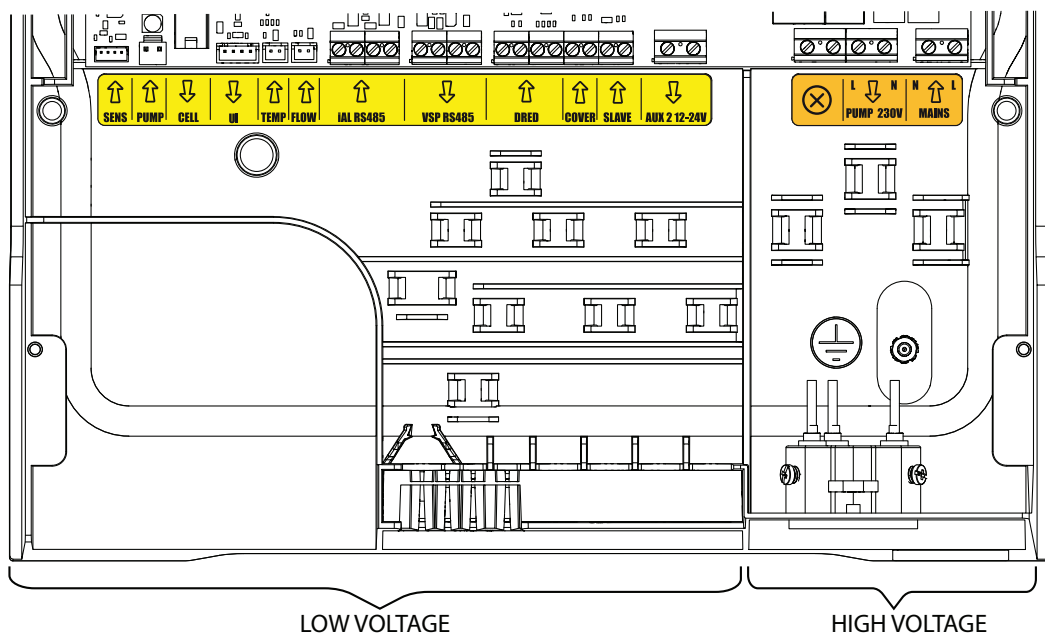

Figure 7. Controller Wiring
1. Wire low voltage connections on the low voltage side of the enclosure, see Figure 7.
2. Wire high voltage connections on the high voltage side of the enclosure, see Figure 7.
If the pool is equipped with a compatible electric roller cover, this can be connected to the controller in order to automatically reduce chlorination upon closing the cover, this is known as Cover mode, see Table 3 and Figure 7 for wiring details. Chlorination will resume at the level determined by the programming upon opening the compatible electric cover.